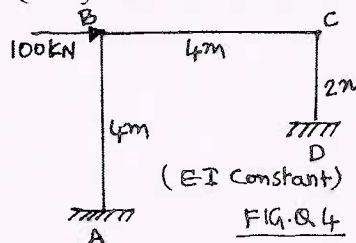

Fig.Q.4
- 4 Analyze the frame shown in Fig.Q.4 by MD method and draw BMD and EC. (20 Marks)